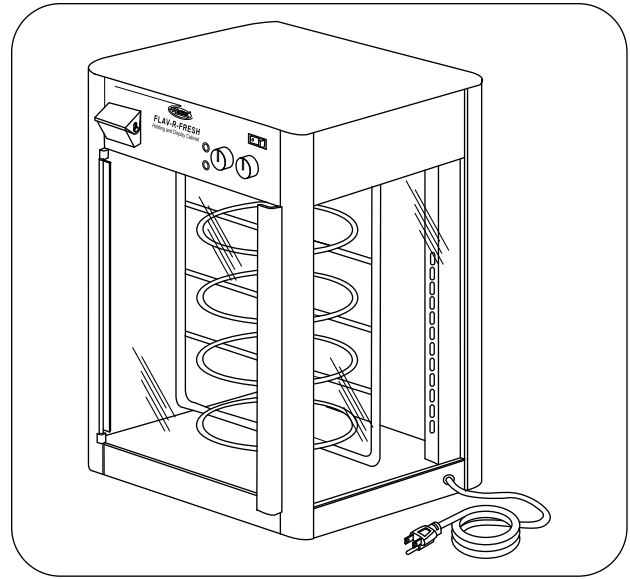

Figure 2. FDWDE-1 Model
The Flav-R-Fresh® model FDWDE-1 is a **single door** model with a motorized rotating display. (See Figure 2.) It comes standard with a pizza rack that holds up to four (4) round pizza pans with a maximum diameter of 15" (381 mm). The rotating rack automatically pauses when the door is opened. An optional rotating pretzel tree or 4-shelf multi-purpose stationary rack is also available.